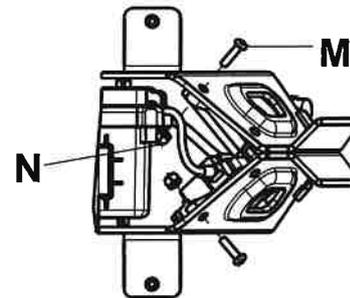

Figure 94 – Remove the screw and nut
24. Using a T25 Torx driver and a 3/8" combination wrench, remove the screw (M) and nut (N) that secure the wireless module, if equipped, and the NFMIC module to the cot, if equipped (Figure 94). Save the screw and nut.